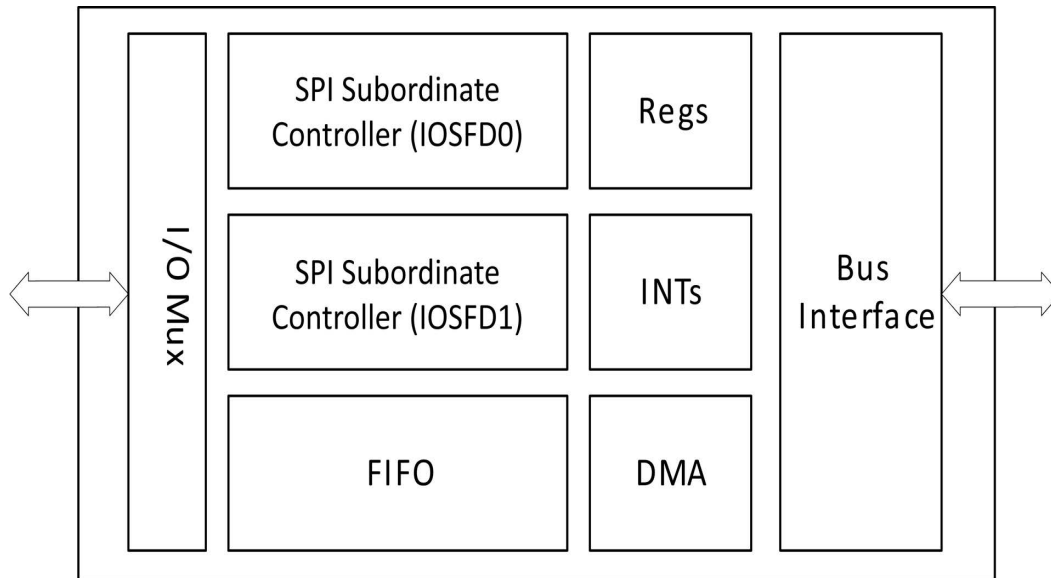

Figure 33. Full Duplex IOS SPI Subordinate Controller Pair (IOSFD0 / IOSFD1)
The Apollo510B SoC includes two instances of the Full Duplex SPI Subordinate and both instances are designed to work in tandem to enable full duplex (FD) operation. Features of the controller pair are shown in Figure 33 and listed below.